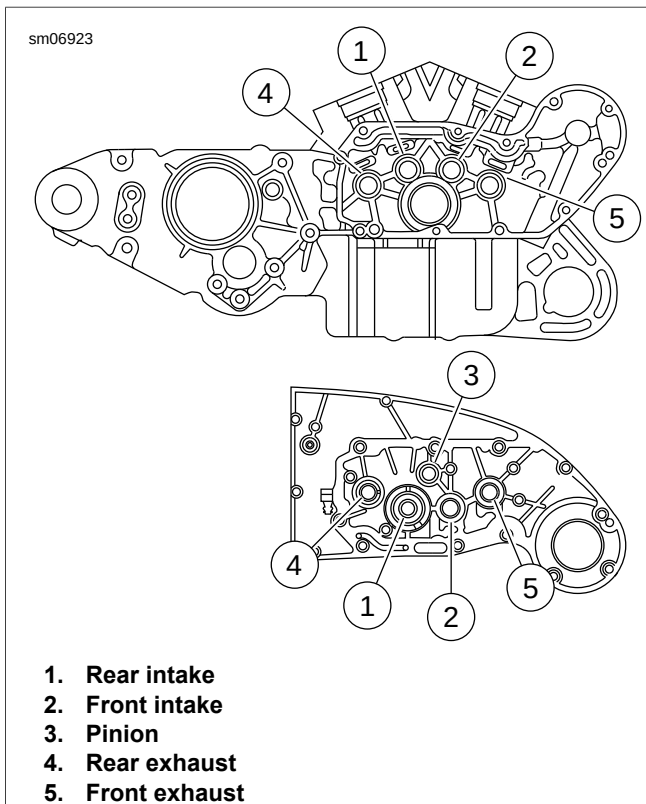

Figure 3-114. Cam and Pinion Bushings
- See Figure 3-114. Measure each bushing and its corresponding cam gear shaft or pinion gear shaft. Replace bushings that exceed service wear limits. Refer to Table 3-34.